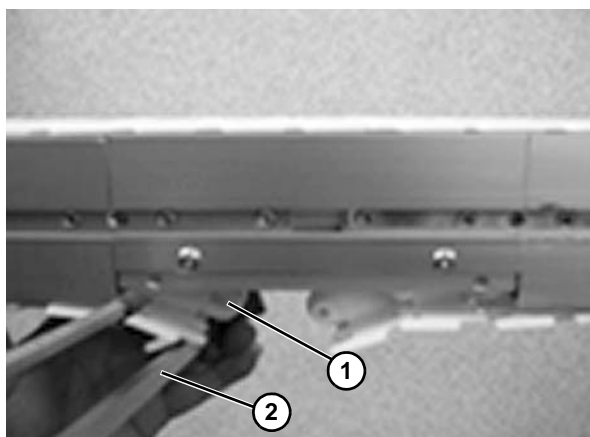

Figure 57
3. Clamp the chain (**Figure 57, item 1**) to the beam profile. Use the FlexMove chain tool (**Figure 57, item 2**) to remove a steel pin from the chain, so that two links are separated.